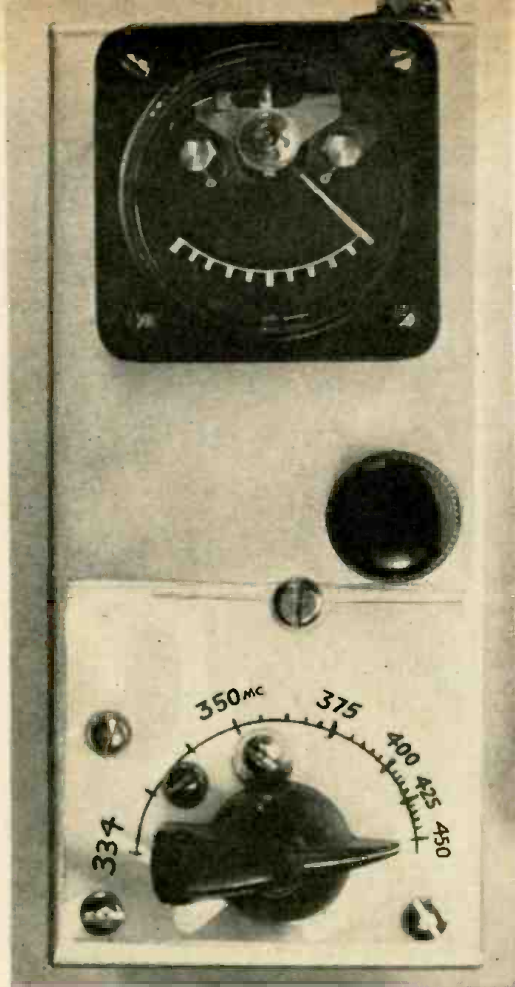

Fig. 2. Dial may be calibrated 0-180 degrees. If it is, make a set of calibration curves for each coil similar to curve of Fig. 5.
Fig. 2. Large-signal input (A) may drive a stage into gradual portion of the tube characteristic. With signal input reduced (B) to use only steep part of slope, theoretical gain increases.
As in any u.h.f. circuit, the parts layout is very important. The grid-dip meter is built in a 5"x2 1/4"x2 1/4" metal cabinet (Figs. 2 and 7). The coils plug into a ceramic socket (.05" pin dia., .487" pin spacing). The socket is mounted on a polystyrene or high-quality phenolic insulator board and then
Fig. 2. Typical three-tube regenerative receiver using ganged tuning of the r.f. and detector stages. Trimmers are used for antenna matching and for improved tracking of the r.f. amplifier stage. The regeneration control varies the screen voltage of the grid-leak detector. Another stage of audio amplification was frequently used if a loudspeaker was to be employed. An a.c. rectifier, usually full-wave, completed the set's tube lineup.
The three-tube receiver circuit has survived until today and is still useful for experimenters and beginners. For a time, the 30, 33, and 34 tubes were popular for battery sets and the 58, 57, and 56 became a favored lineup for a.c. use. Metal tubes appeared and a pre-World War II RCA tube manual featured the circuit with 6SK7's and a 6C5. The circuit is still of interest and a representative version with more modern tubes is given in Fig. 2.